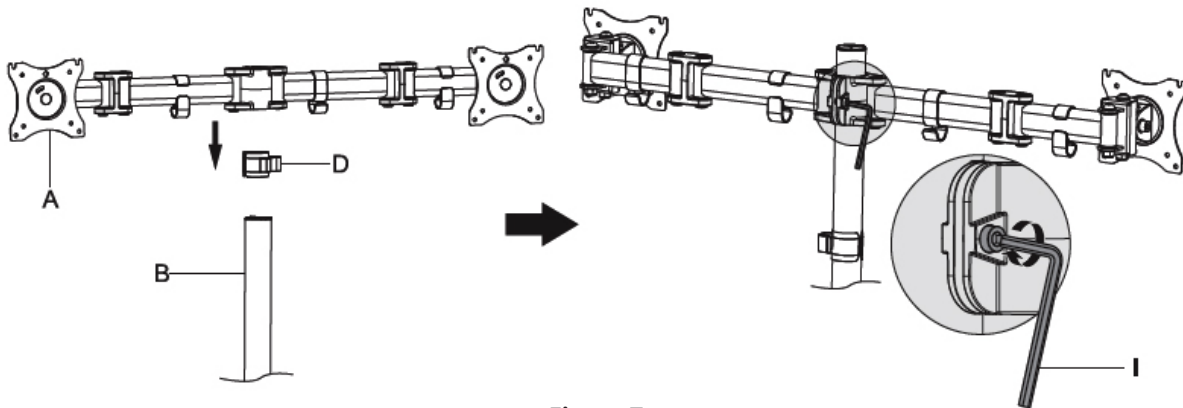

Figure 7
1. Install the Cable Management Clip (D) and VESA Plate with Arm (A) to the Tube Support (B). Tighten the clamp bolt using the 5mm Allen Key (I), see **Figure 7**. **Important:** Install the VESA Plate with Arm with the orientation that the Allen head end of each swivel joint is pointing upwards.